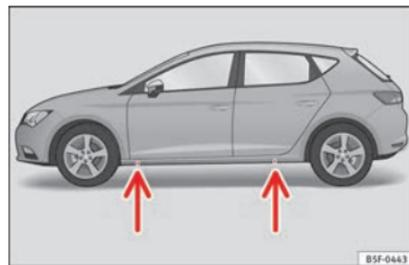

Fig. 52 Jack anchor points
- ⑥ Wire hook for pulling off the wheel covers*/wheel bolt cap clip.
- » **Fig. 52.**